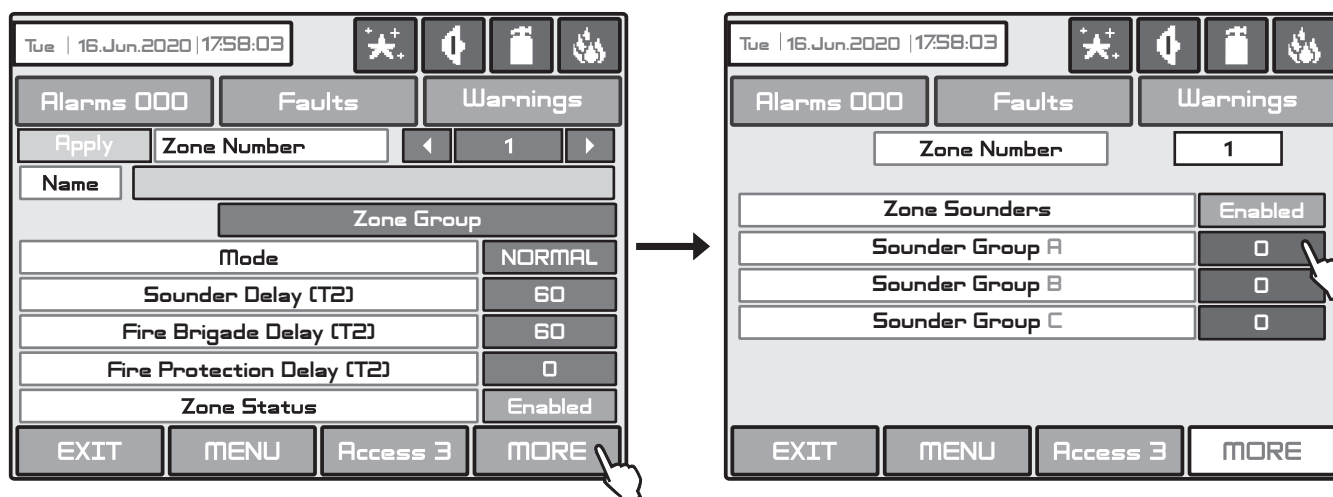

Fig. Screen 14B.
• **Zone Sounders** - Set the operation of the sounders associated to the respective zone number (the one actually displayed in the submenu - number 1 in Fig. Screen 14B). The zone number is associated in the individual programming menu of every device – see item 3.3.2, Fig. Screen 9(a).